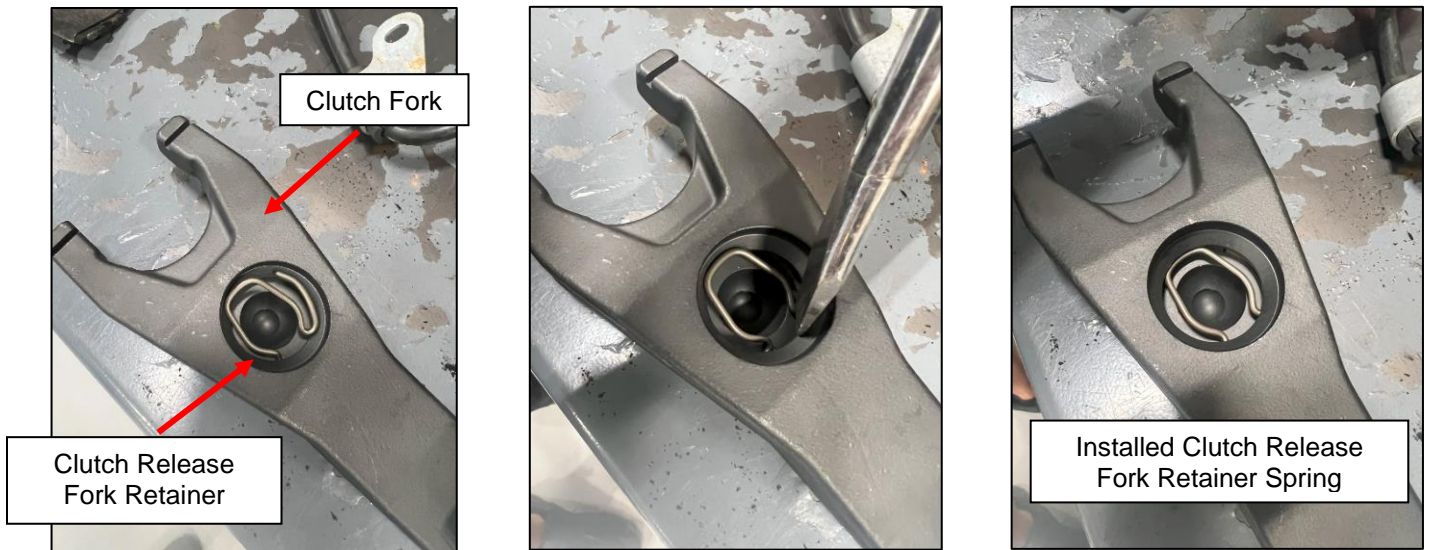

Figure 11
33. Locate the Clutch Release Fork Retainer Spring and the Clutch Fork. Install the Pivot Ball Retaining Clip into the Clutch Fork. Use of a screwdriver or similar tool may be necessary to get the Retaining Clip to seat in the Clutch Fork Properly. *Figure 11.*